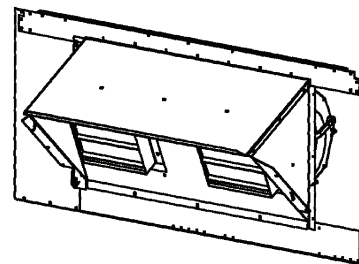

Fig. 13 — Assembly in Operating Position
6. Tilt the assembly out of the unit and into final operating position. See Fig. 13.